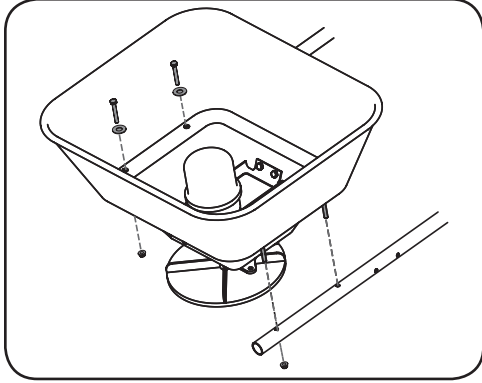

Figure 2-8
- Attach the hopper assembly to the round ends of the single frame tubes with four M6 x 40 bolts and washers found in hardware pack 3032810. Secure the rear bolts on each side with hex nuts from hardware pack 3032810. The front nuts will be installed later to secure the material deflector. See Figure 2-8.